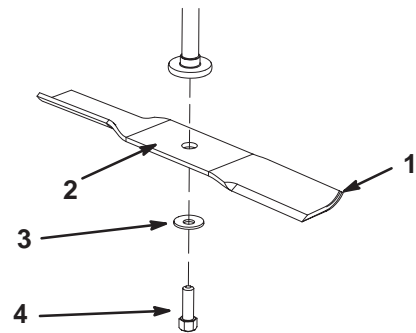
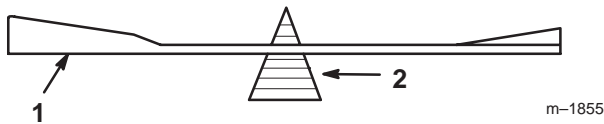

Figure 28
Figure 30
Hold the blade end using a rag or thickly-padded glove. Remove the blade bolt, curved washer, and blade from the spindle shaft (Fig. 28).
2. Check the balance of the blade by putting it on a blade balancer (Fig. 30). If the blade stays in a horizontal position, the blade is balanced and can be used. If the blade is not balanced, file some metal off the end of the sail area only (Fig. 28). Repeat this procedure until the blade is balanced.
1. Install the blade onto the spindle shaft (Fig. 28).
2. Install the curved washer (cupped side toward the blade) and the blade bolt (Fig. 28). Torque the blade bolt to 35–65 ft-lb (47–88 N·m).